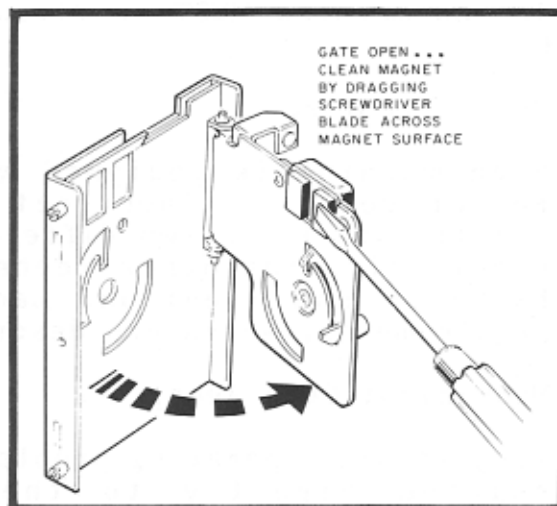

Fig. 38
4. Open the coin acceptor gate and remove all metal debris from magnet by applying the blade of a screwdriver along the edges of the magnet (see Fig. 38).